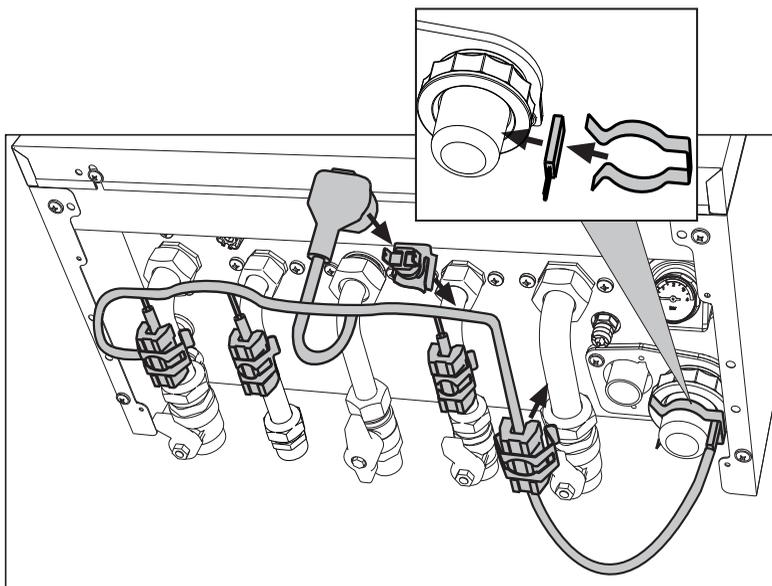

fig. 49- Frost protection kit
In case of installation outside in a place partially protected for temperatures below  $-5^{\circ}\text{C}$  and to  $-15^{\circ}\text{C}$ , the boiler must be fitted with the special frost protection kit for protecting the circuit. Connect the kit to the PCB as indicated in the wiring diagram in fig. 80 (ref. 288) and position the thermostat and heaters on the pipes as indicated in fig. 49 and in the instructions provided with the kit.